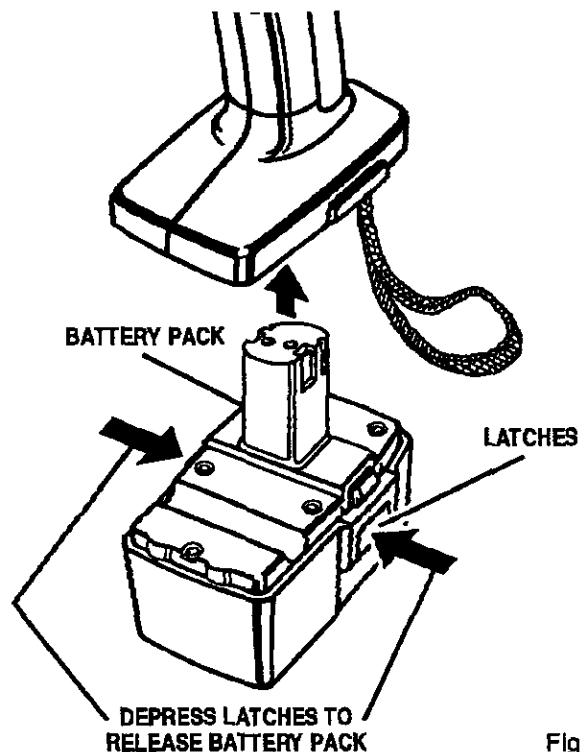

Fig. 3
- Lock switch trigger on your drill by placing the direction of rotation selector in center position. See Figure 3.
- Place battery pack in your drill. Align raised rib on battery pack with groove inside drill. See Figure 3.
- Locate latches on side of battery pack and depress to release battery pack from your drill. See Figure 3.